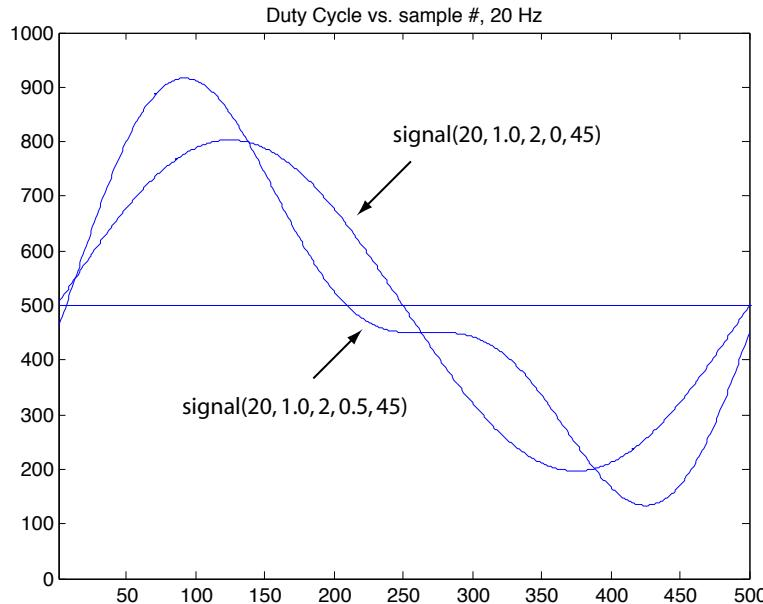

Figure 9.3: Example analog output waveforms, plotted as the duration 0 to 1000 of the high portion of the PWM waveform, which has a period of 1000.
where the constant C is 1.65 V (half of the full range 0 to 3.3 V), A_1 is the amplitude of the sinusoid at frequency f , A_2 is the amplitude of the sinusoid at frequency kf , and ϕ is the phase offset of the higher frequency component. Typically values of A_1 and A_2 would be 1 V or less so the analog output is not saturated at 0 or 3.3 V. The function takes A_1 , A_2 , k , f , and ϕ as input and creates an array `dutyvec`, of appropriate length, where each entry is a value 0 to 1000 corresponding to the voltage range 0 to 3.3 V. Each entry of `dutyvec` corresponds to a time increment of $1/10 \text{ kHz} = 0.1 \text{ ms}$, and `dutyvec` holds exactly one cycle of the waveform, meaning that it has $n = 10 \text{ kHz}/f$ elements. A Matlab implementation is given below. You can experiment plotting waveforms or just use the function for reference. A reasonable call of the function is `signal(20, 0.5, 2, 0.25, 45)`, where the phase 45 is in degrees. Example waveforms are shown in Figure 9.3.
- (e) The main function of your program should sit in an infinite loop, asking the user for new parameters. In the meantime, the old waveform continues to be “played” by the PWM. For the values given in Figure 9.3, use your oscilloscope to confirm that your analog waveform looks correct.